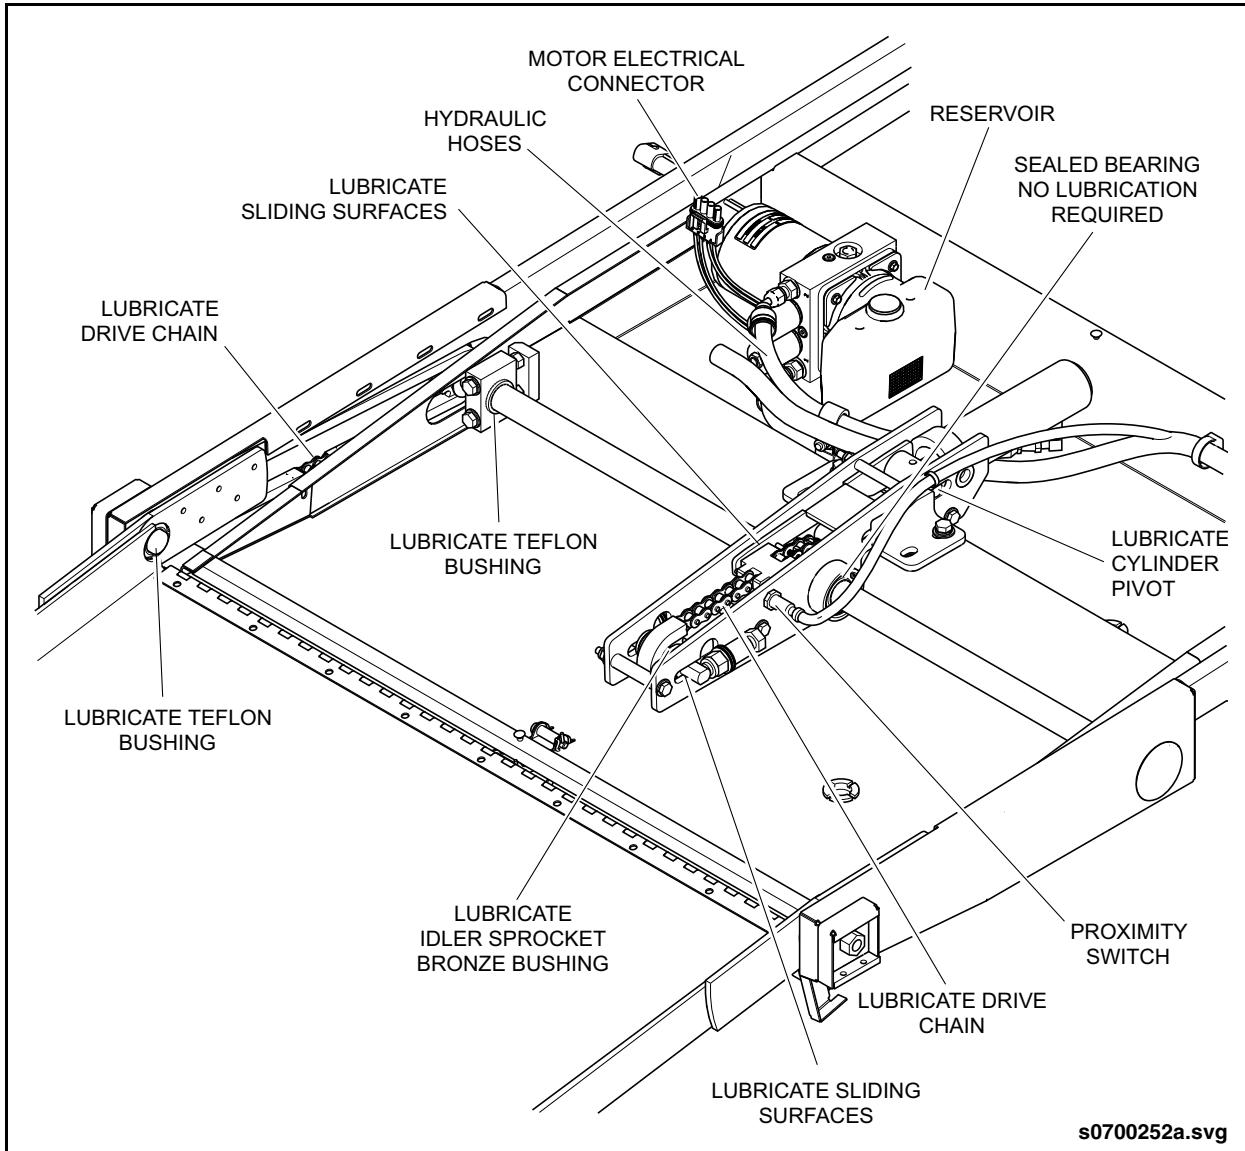

Fig. PM-26: Wheelchair Ramp Inspection
- Inspect ramp pump electrical connectors for condition and security. See "Fig. PM-26: Wheelchair Ramp Inspection" on page 57.